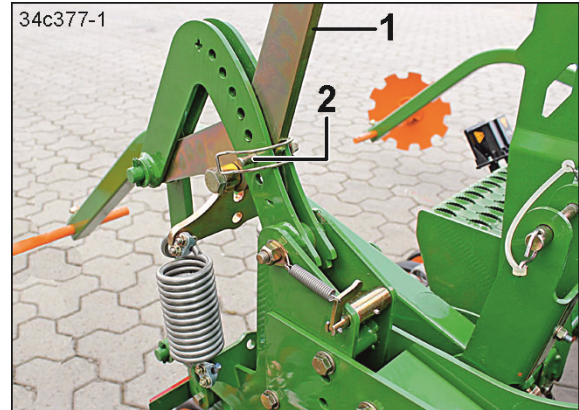

Fig. 145
2. Briefly pull on the lever (Fig. 145/1) and remove the safety pin for the tube (Fig. 145/2).